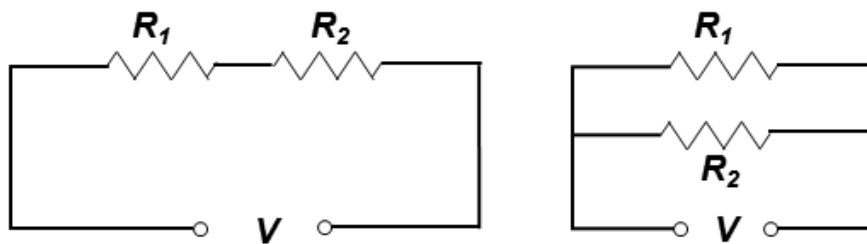

Figure 7. Series and parallel circuit
3. Set up the circuit in series and parallel on Breadboard, as indicated in Figure 7.